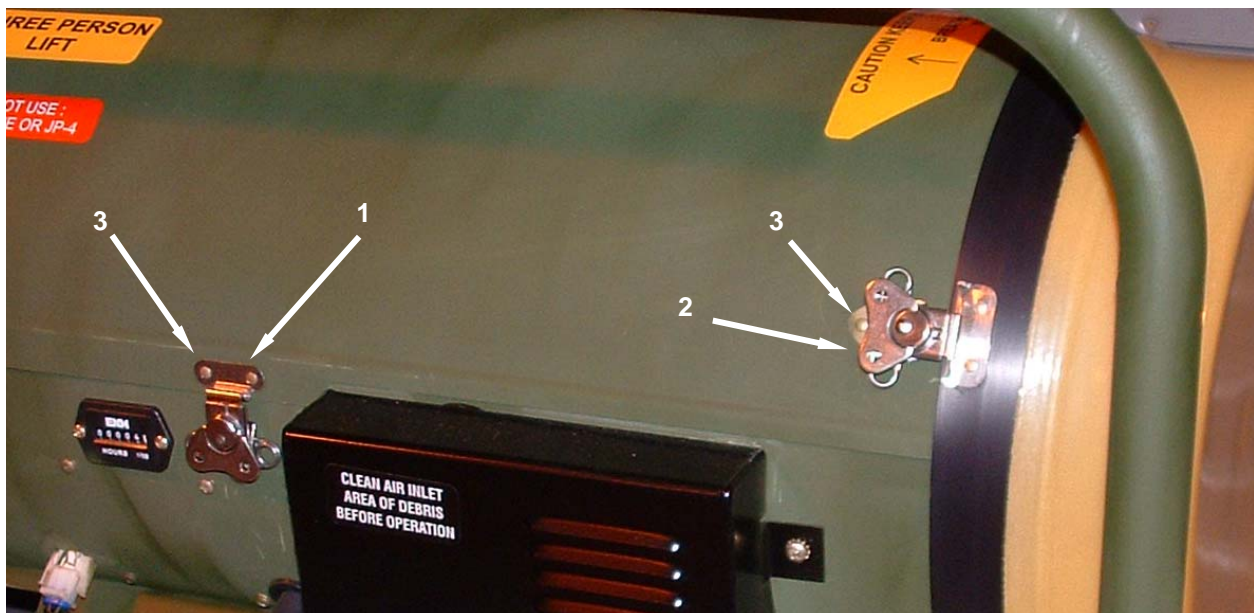

Figure 2. Repair the Upper Housing Assembly.
1. To repair the upper housing assembly by replacing a keeper (**Figure 2, Item 1**) or catch (**Figure 2, Item 2**), first drill out the rivets (**Figure 2, Item 3**) retaining the fastener to the housing.
2. Install the keeper (**Figure 2, Item 1**) or catch (**Figure 2, Item 2**) to the housing using the riveting tool and rivets (**Figure 2, Item 3**).
3. Operate the keeper (**Figure 2, Item 1**) or catch (**Figure 2, Item 2**) to ensure that the halves align correctly.